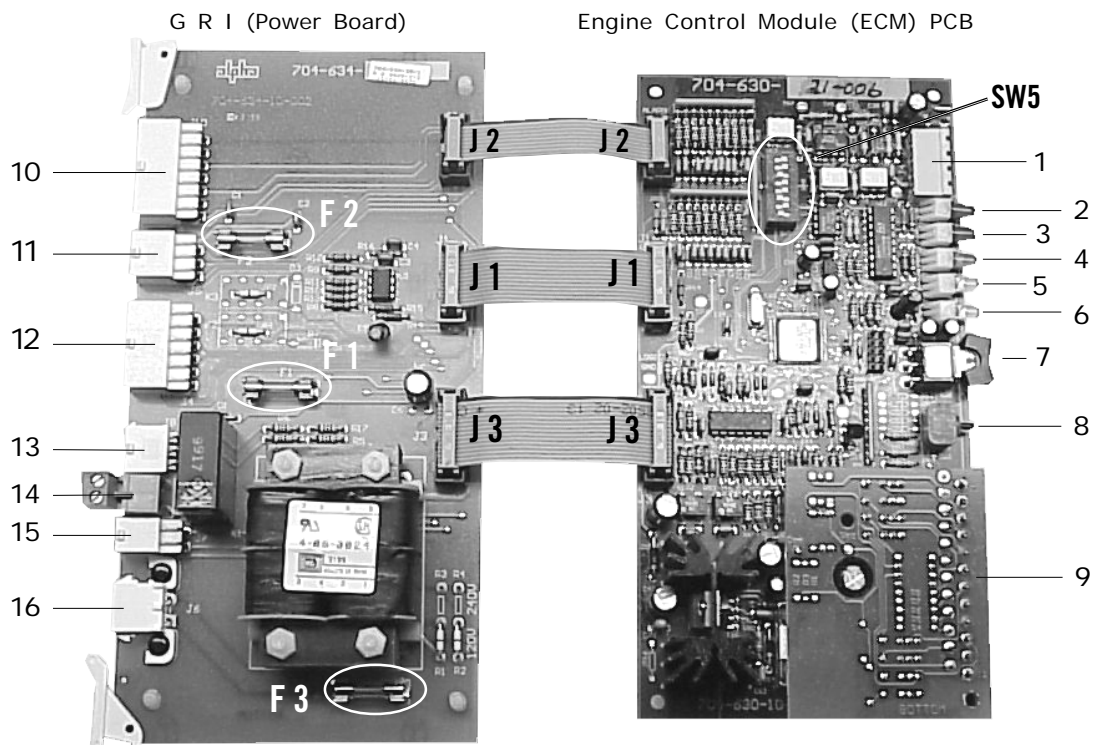

Fig.4-9 ECM Printed Circuit Boards
The connector is a 14 pin 0.100" spaced, 150V rated ribbon cable with polarized cable connectors that prevent incorrect connections in the field. Designations for the connector mounted on the PCBA shall be identified by silk screen "J1" and marked with the #1 pin of the PCB receptacle for polarization. See Fig. 4.9 for location.
This connector is a 10 pin 0.100" spaced, 150V rated ribbon cable with polarized cable connectors that prevent incorrect connections in the field. Designations for the connector mounted on the PCBA shall be identified by silk screen "J2" and marked with the #1 pin of the PCB receptacle for polarization. See Fig. 4.9 for location.
This connector is a 16 pin 0.100" spaced, 150V rated ribbon cable with polarized cable connectors that prevent incorrect connections in the field. Designations for the connector mounted on the PCBA shall be identified by silk screen "J3" and marked with the #1 pin of the PCB receptacle for polarization. See Fig. 4.9 for location.
The Alarm Interface Connector (J10) connected to the Power PCBA as shown. The interface control is a 14-pin (2x7 row) Universal Mini Mate-'N'-Lok style male connector. See Fig. 4.9, item 10 for location.